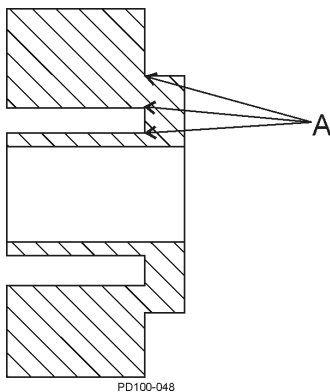

Figure 31 - Rotor Stress Points
- Thoroughly inspect the rotors for worn keyways, hub wear and stress cracks. Use the dye check method to detect any fatigue-type cracks at rotor stress points (Figure 31, item A).